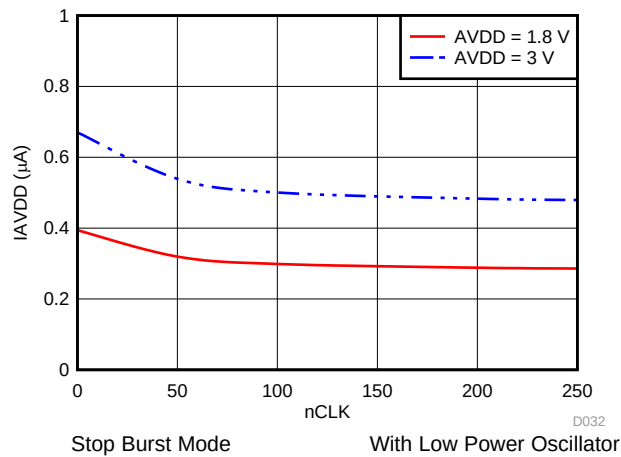
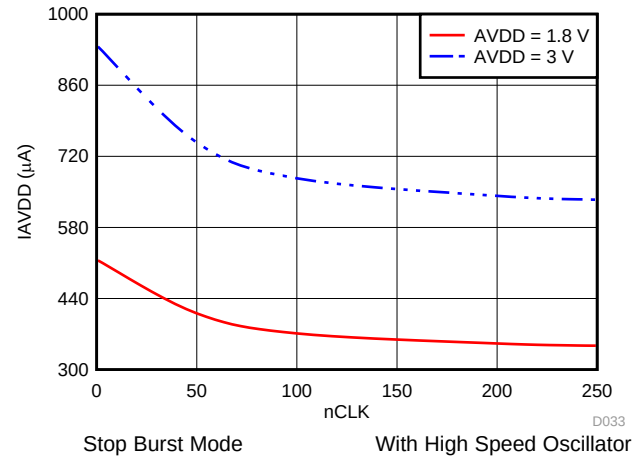
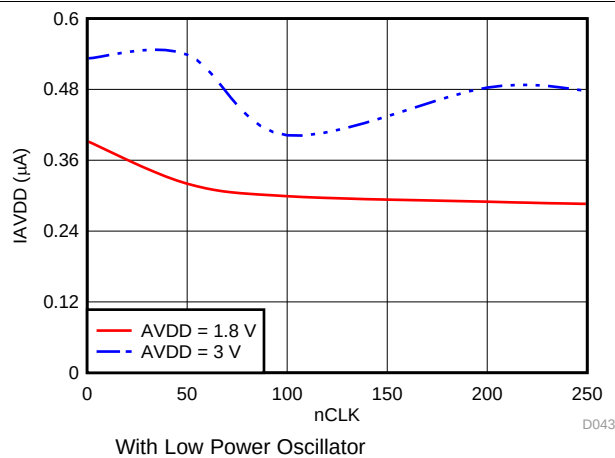
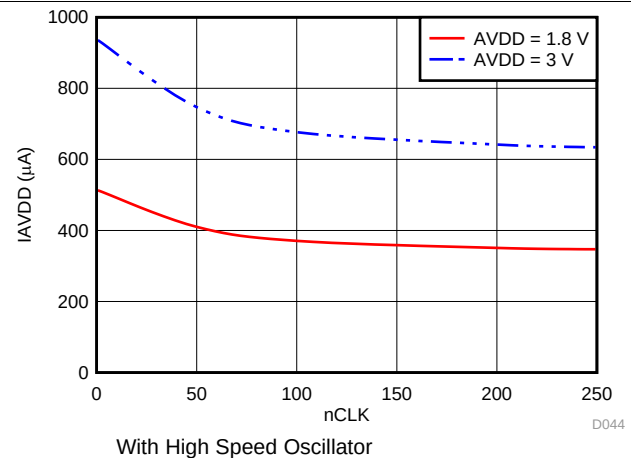

FIG 71. I_{AVDD} in Autonomous Modes with nCLK
FIG 72. I_{AVDD} in Autonomous Modes with nCLK
FIG 73. I_{AVDD} in High Precision Mode with nCLK
FIG 74. I_{AVDD} in High Precision Mode with nCLK
- In *Autonomous Modes* and *High Precision Mode*, the balance between sampling speed and power consumption can be obtained by selecting the oscillator for conversion and setting the nCLK value. The device sampling speed and power consumption reduce by increasing the nCLK value. Refer to Figure 71, Figure 72, Figure 73 and Figure 74 for current consumption in Autonomous modes and High Precision mode with different nCLK values.